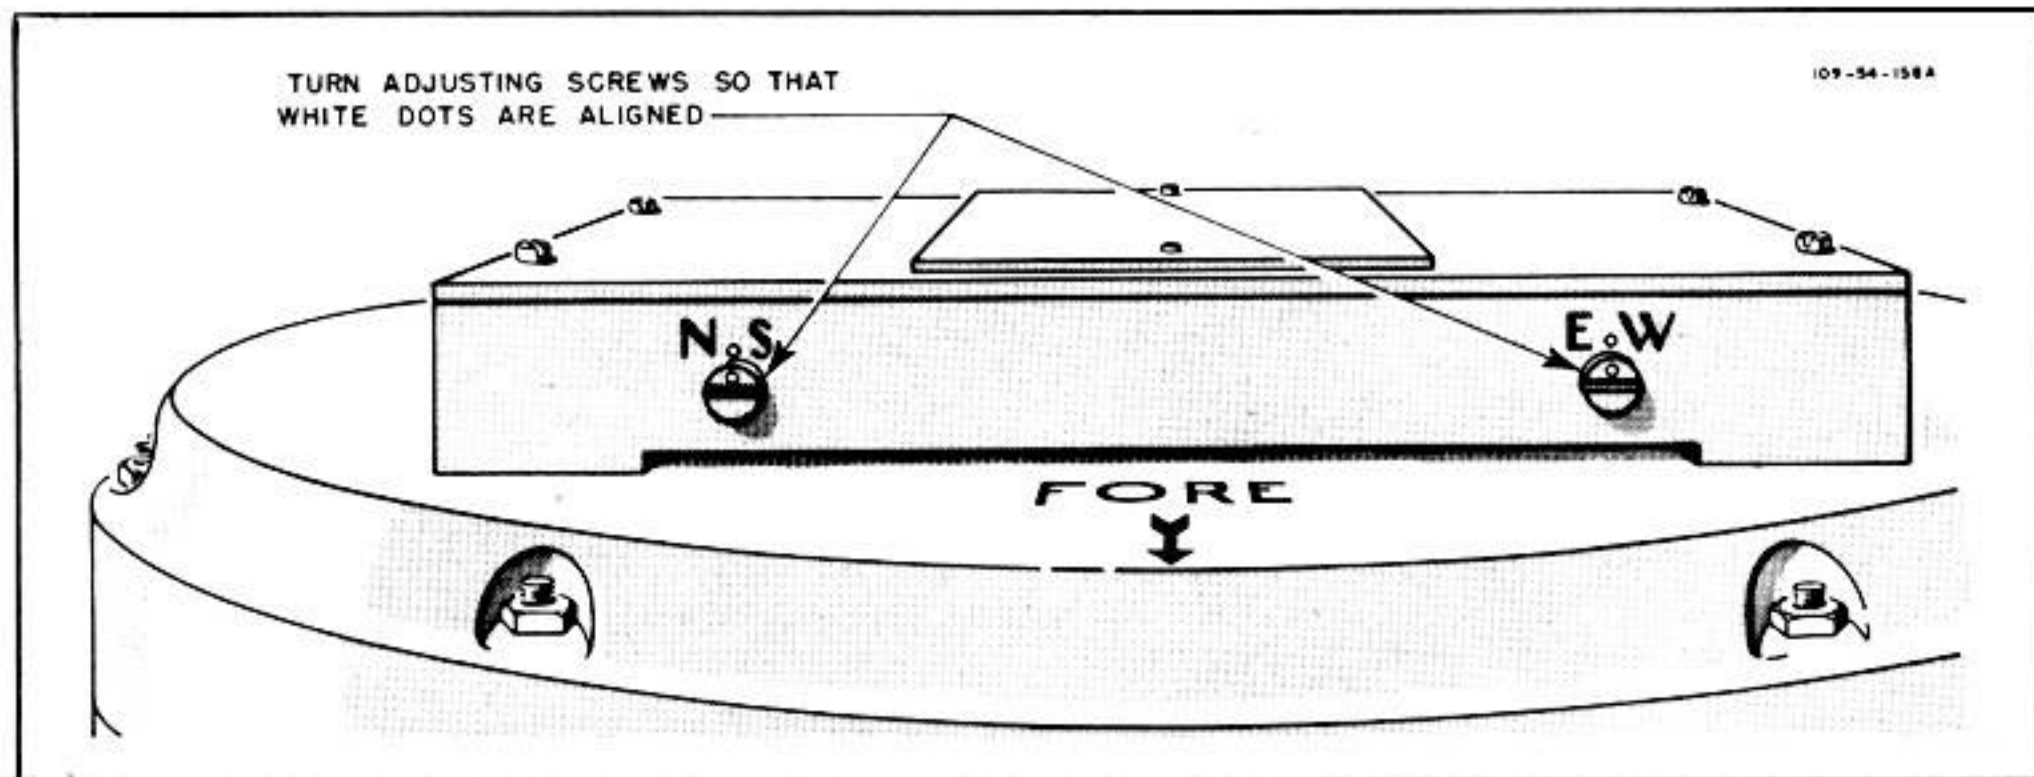

Figure 296—Adjusting the Compensating Screws
1. Having selected a suitable area for swinging, adjust the compensator on the airplane compass for zero effect. (See figure 296.)